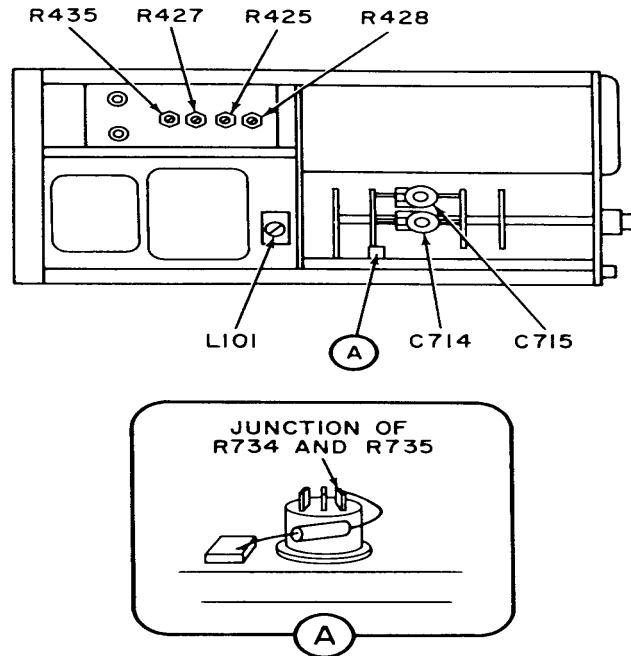

Figure 3. Oscilloscope-left t-side view.
- (1) Adjust oscilloscope calibrator VOLTS/DIV variable until DEVIATION readout indicates +0.00 percent (for AN/GSM-256, adjust voltage calibrator output for 3.0 V p-p).
- (2) Adjust R425 (fig. 3) for a 6-division horizontal display.
- (1) Set TRIGGER SLOPE switch to +AC.
- (2) Connect oscilloscope calibrator (A3) HI AMPL OUTPUT (for AN/GSM-256, use H-P Model 211B 50Ω OUTPUT) to HORIZ INPUT, using cable and termination (B5 and B11).
- (3) Connect oscilloscope calibrator MARKER OUT (for AN/GSM-256, use TRIGGER OUTPUT) to EXT TRIGGER INPUT, using another cable (B5).
- (4) Connect INPUT A to junction of R734 and R735 (fig. 3), using cable (B7)
(1) Adjust R435 (fig. 3) for optimum linearity on display.
(3) Adjust VOLTS/DIV switch and VARIABLE control for a convenient vertical deflection.
(4) Adjust horizontal POSITION control to align second time-marker on second vertical graticule line. If 10th time-marker is not within ± 1.5 minor divisions of 10th vertical graticule line, perform **b** below.
b. Adjustments. Adjust R427 (fig. 3) until 10th time-marker is within $+1.5$ minor divisions of 10th vertical graticule line (R).
²When adjusting C714 or C715 (fig. 3), make compromise adjustments as necessary for optimum display.
- (1) Set TIME/DIV switch to 5 μSEC and HORIZ MODE switch to 5X MAG.
- (2) Set oscilloscope calibrator (A3) TIME/ DIV switch to 1 μS and TRIGGER PULSE PERIOD switch to 1 μS. (For AN/GSM-256, set to 1 μS time-markers and 1 μS triggers.)
- (3) Adjust horizontal POSITION control to align second time-marker on second vertical graticule lines.
- (4) Adjust oscilloscope calibrator output to align a time-marker for each TI vertical graticule between second and 10th line. If oscilloscope calibrator does not indicate 1 μs within ±3 percent (for AN/GSM-256, if 10th time-marker is not aligned with 10th vertical graticule line or there is not a time-marker within ±1.5 minor divisions of each vertical graticule between second and 10th lines), perform **b** below.
b. Adjustments. Adjust R428 (fig. 3) until 10th time-marker aligns on 10th vertical graticule line and display has a time-marker within ±1.5 minor divisions of each vertical graticule between second and 10th lines (R).